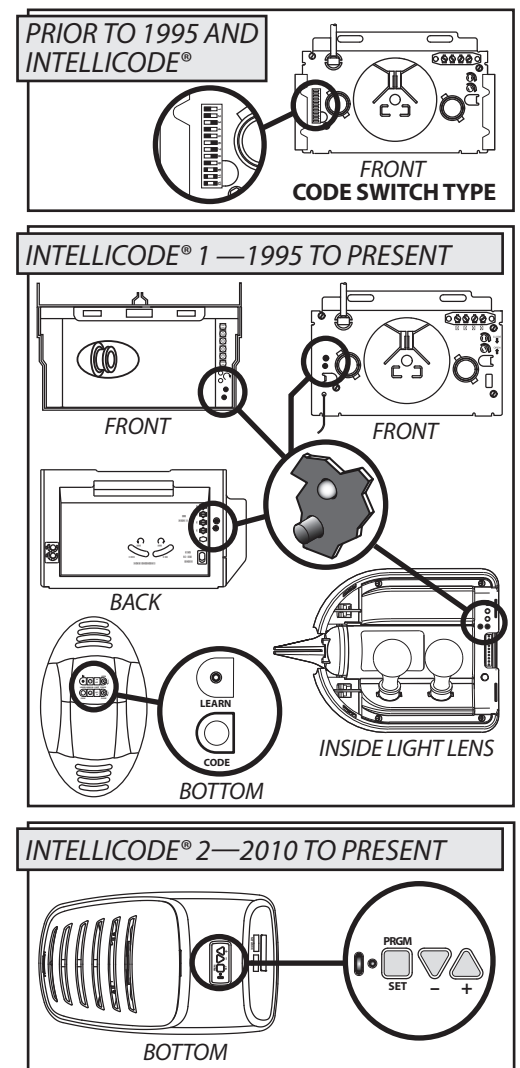

FIG. 2
The *Universal Remote* comes from the factory in the *Intellicode*® 1 Operating Mode. The *Intellicode*® 1 Mode is indicated by a RED LED on the remote whenever a button is pressed (FIG. 2).
3. Press and release a Remote Button, (FIG. 2)—the Learn Code LED will stay on (stops blinking)
The button or buttons on your remote that you wish to use to operate *Intellicode*® 2 openers, must be switched to the *Intellicode*® 2 Operating Mode. The *Intellicode*® 2 Mode is indicated by a GREEN LED on the remote whenever a button is pressed (FIG. 2).